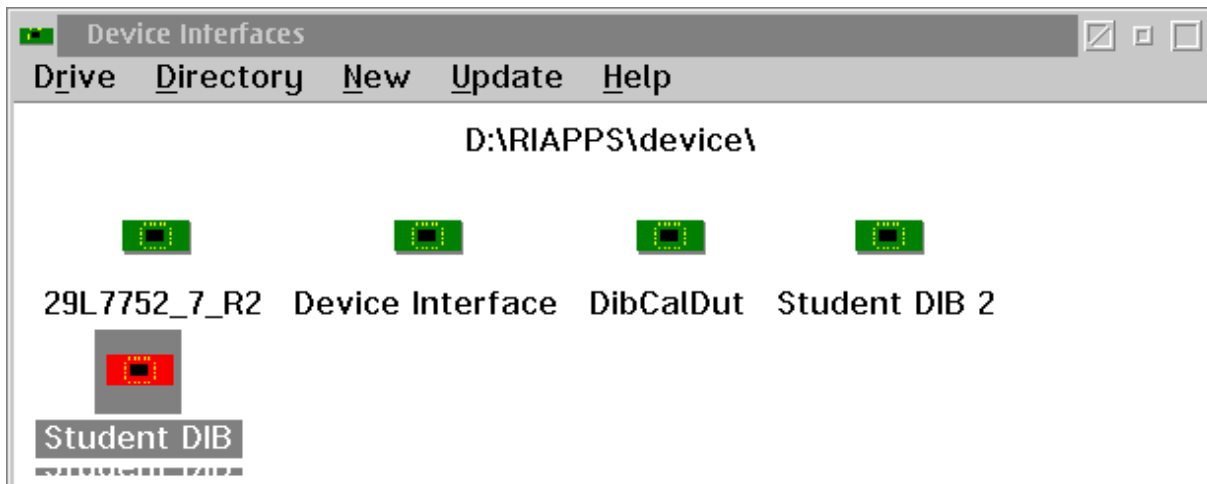

Figure 4
1. Highlight the **DIB** that you wish to edit as shown in Figure 4. Using a right mouse button click a menu will appear. From this menu choose **Edit**.